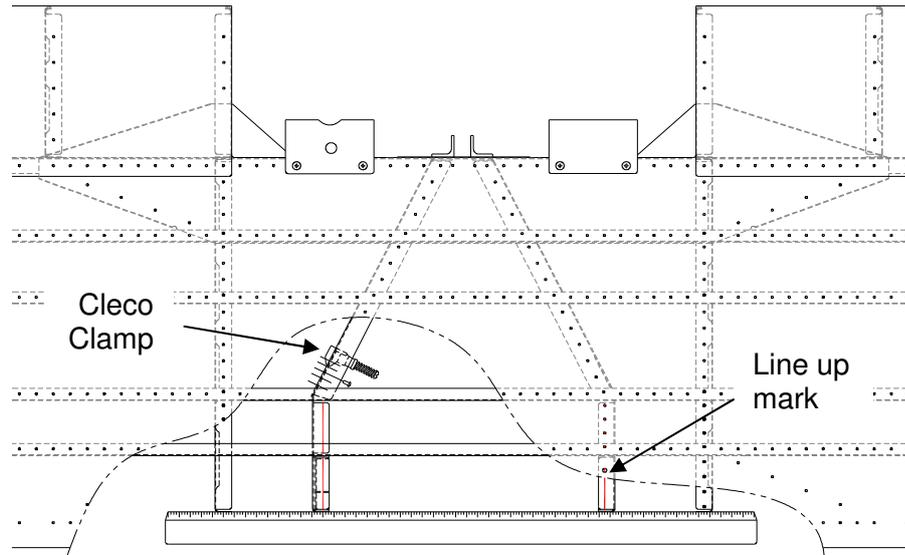

Figure 5
4.4. Use a straight edge across the rear flanges of both No 2 ribs and align both Rib 1 Section rear flanges with the straight edge. Ensure the rib rear flange is square to the straight edge and that the line from the previous step is central in the bolt holes for the Stabiliser Mounting Channel. See Figure 5